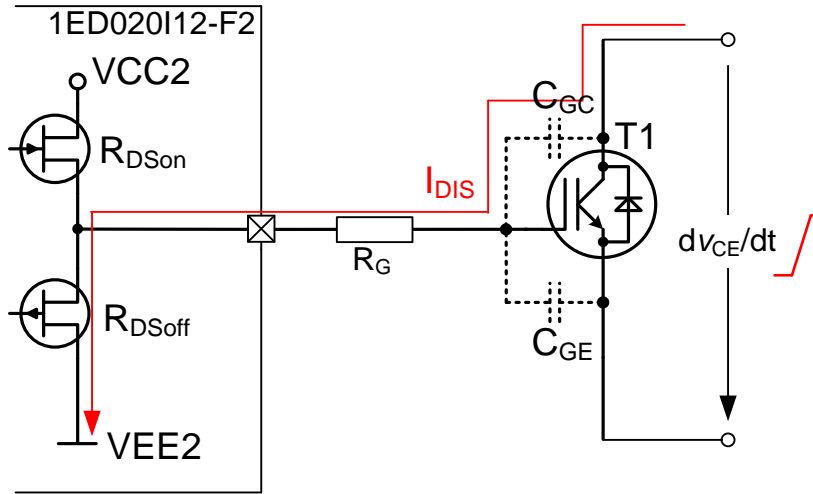

Figure 6 Parasitic tun-on
As sketched in Figure 6, high dv_{CE}/dt across the power device T1 will generate a displacement current I_{DIS} through the Miller capacitor C_{GC} . This is often triggered by turning on the paired device in a half bridge topology. Through the gate resistor R_G , this displacement current I_{DIS} will generate a voltage drop across the gate resistor and will lift up the gate voltage of the power device. This can be calculated according to equation (10) and (11)